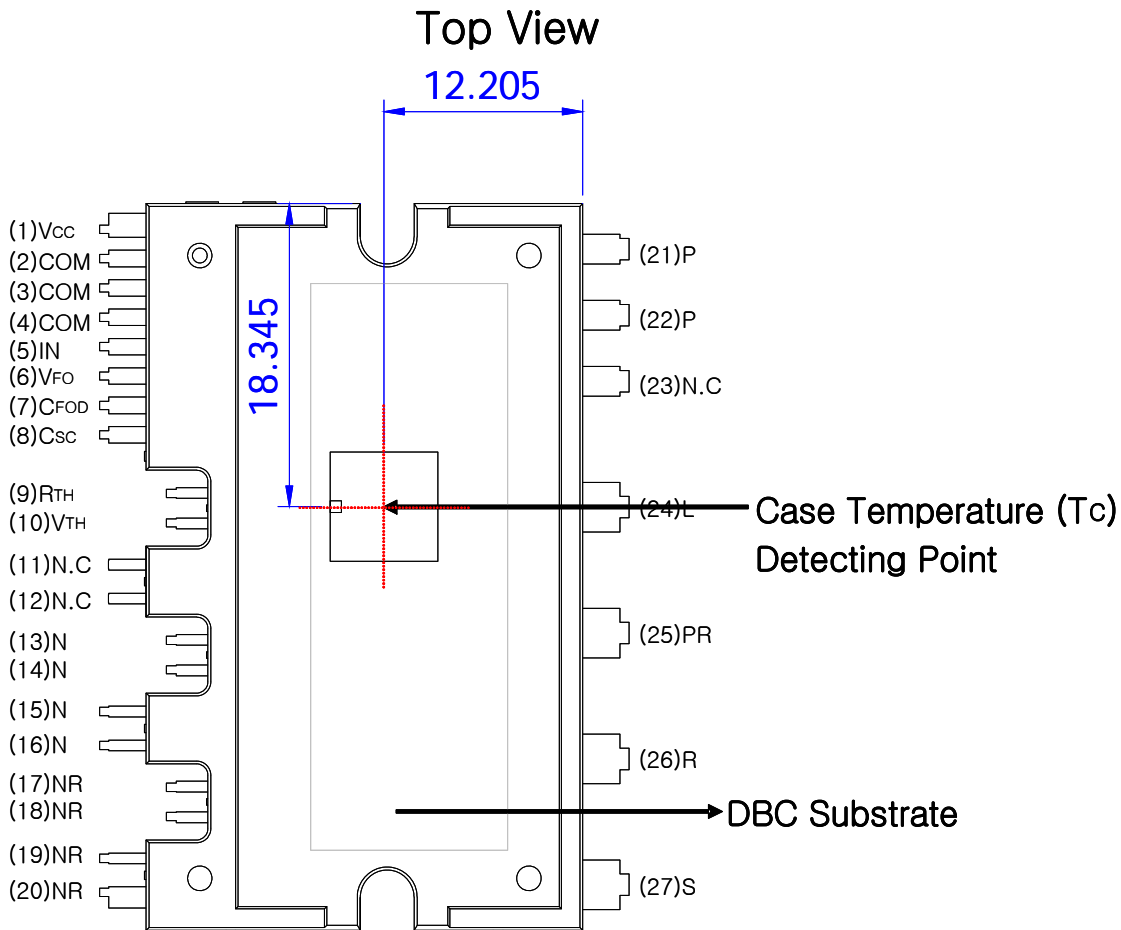

Figure 2. Top View
1. For the measurement point of case temperature(Tc), please refer to Figure 2.
2. For the measurement point of case temperature ( $T_C$ ), please refer to Figure 2.